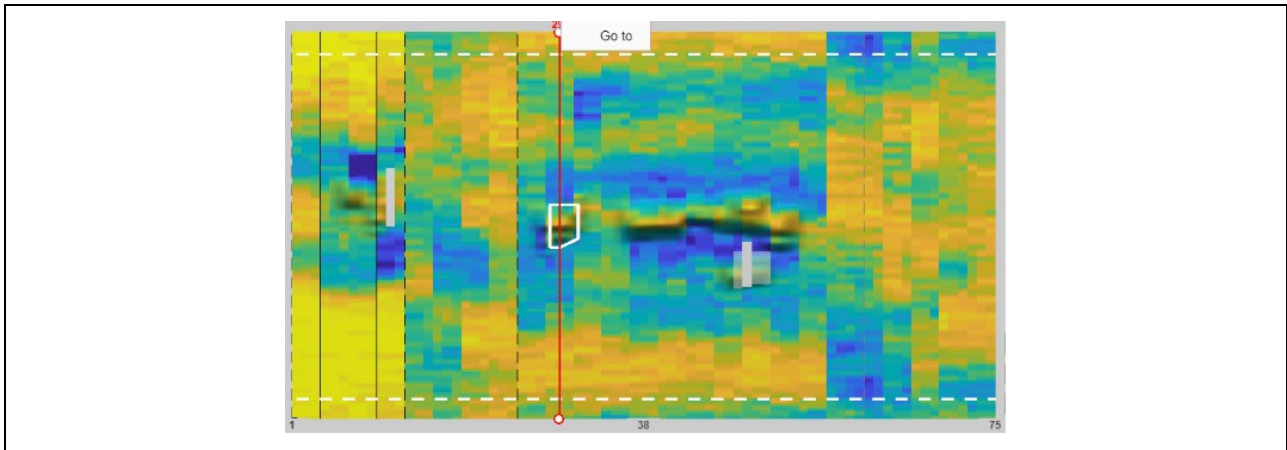

Figure 75: Go to Specific Slice
- Right click on slice number enables jumping to selected slice. First a Go to option opens (Figure 75). Clicking it open a small window to enter a specific slice number or time (HH:MM:SS format) (Figure 76)